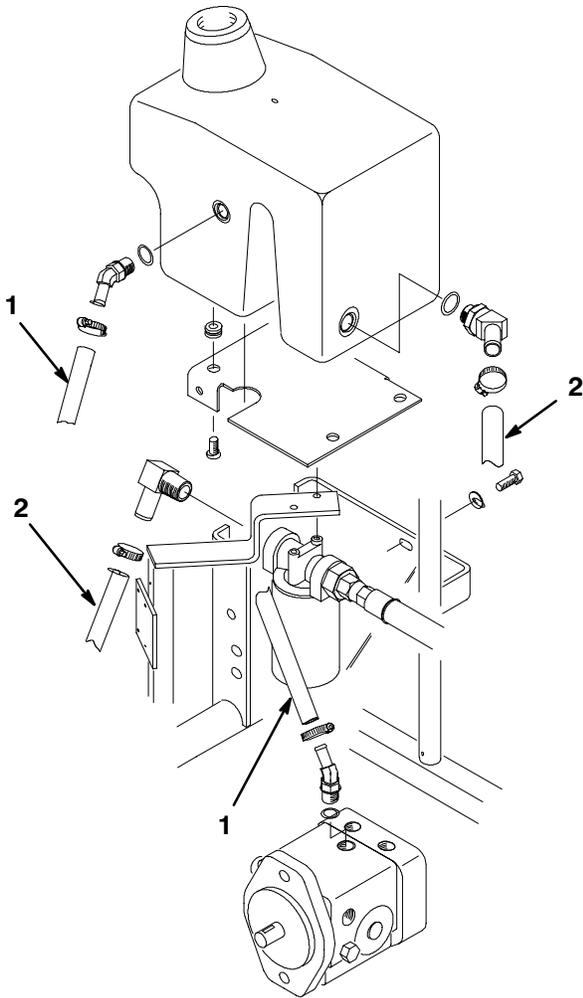

Figure 6
5. Connect the 1/2" diameter hose from the hydraulic pump to the front of the hydraulic tank (Fig. 6).
6. Connect the 3/4" diameter hose from the hydraulic filter to the side of the hydraulic tank (Fig. 6).